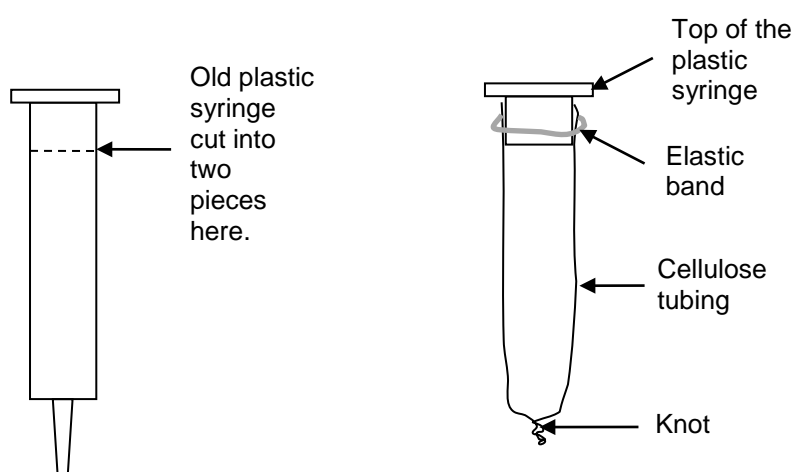

Figure 1 Preparing the cellulose tubing for diffusion experiments.
- Sawn-off plastic syringe barrel to support the cellulose tubing (Figure 1)
1. If it has not been done for you, tie a knot in the end of the cellulose tubing. Soak the tubing in water and use an elastic band to fasten it to the sawn-off syringe barrel (Figure 1).